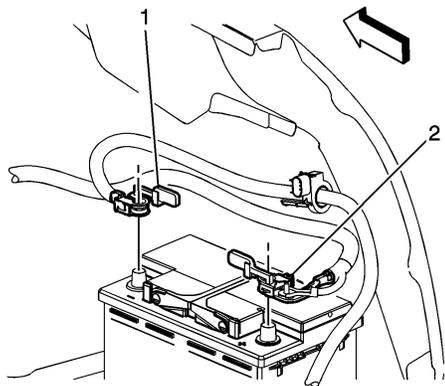

Fig. 5 Battery cable removal
9. Turn battery ground cable handle (1) to release clamping force, and remove battery ground cable from battery ground post, **Fig. 5**.
10. Turn battery positive cable handle (2) to release clamping force, and remove battery positive cable from battery positive post, **Fig. 5**.
4. Turn battery positive cable handle (2) to secure battery positive cable to battery positive post, **Fig. 5**.
6. Turn battery ground cable handle (1) to secure battery ground cable to battery ground post, **Fig. 5**.
13. Turn battery ground cable handle (1) to release clamping force, and remove battery ground cable from battery ground post, **Fig. 5**.
14. Turn battery positive cable handle (2) to release clamping force, and remove battery positive cable from battery positive post, **Fig. 5**.